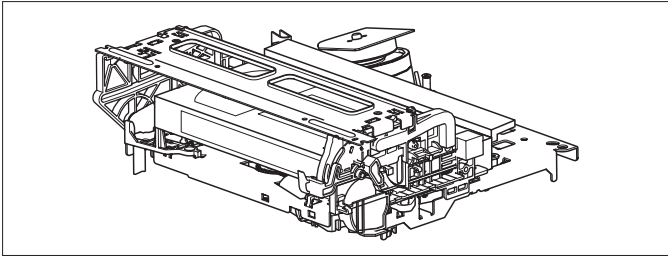

Fig. 1-1a
- (1) Unplug the power cord plug from the power outlet.
- (2) Refer to the disassembly procedure of the VCR and perform the disassembly of the major parts before removing the mechanism assembly. (See Fig. 1-1a)